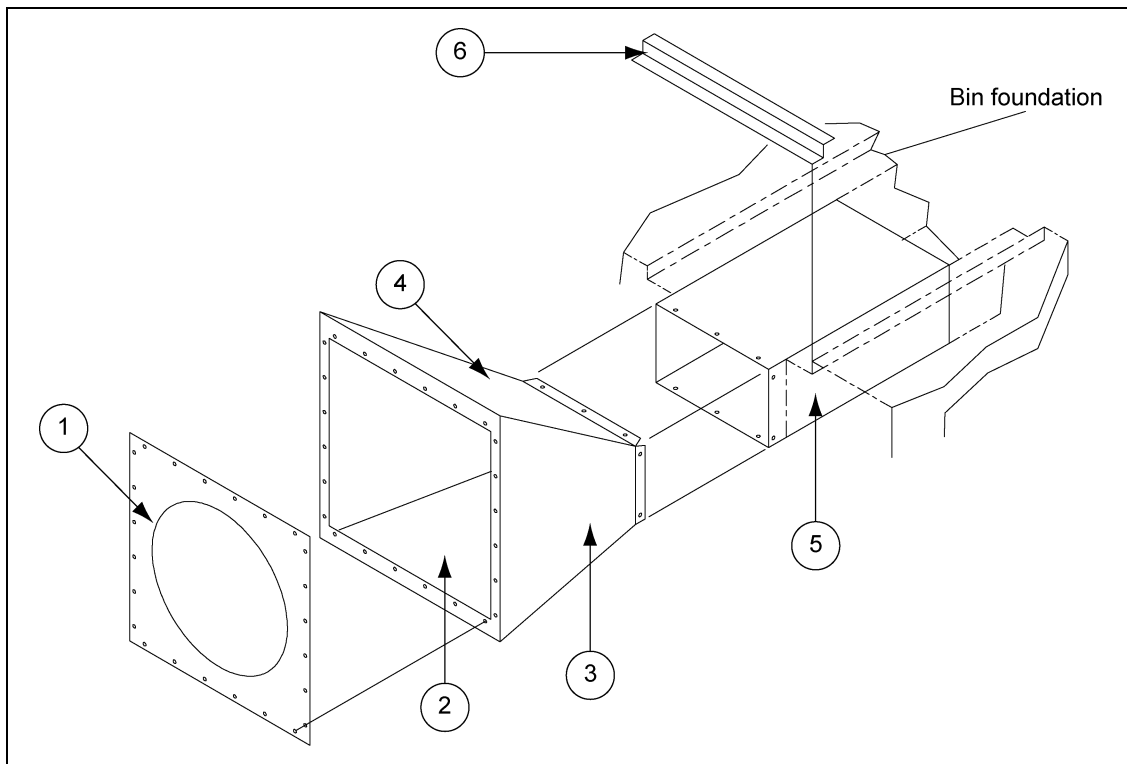

Figure 1
Assemble two (2) inlet duct sections (FL-460) to form a box. Assemble transition as shown in *Figure 1* and then bolt (5/16" x 3/4" bin bolts), to inlet duct. Caulk all seams.